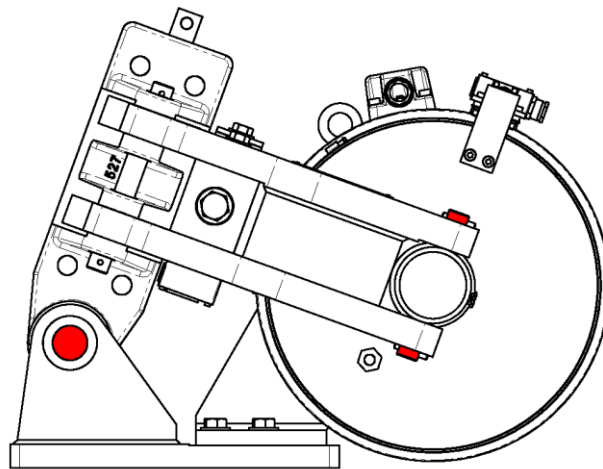

Figure 4.1
1. The caliper must be movable on the base plate in axial direction to the disc. If necessary, clean and grease the greasing points marked in red (Figure 4.1):